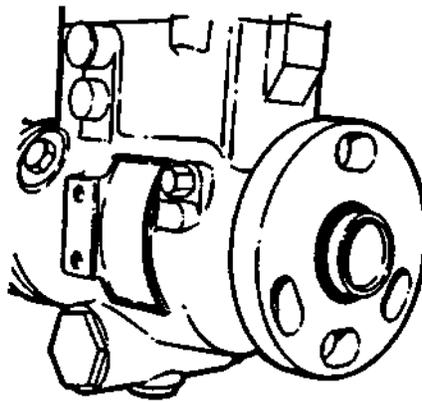

FIGURE 3-108. Installing Pilot Tube Seal
- cs. Install pilot tube seal (1, FIGURE 3-73) in mounting flange end of pump, refer to FIGURE 3-108.